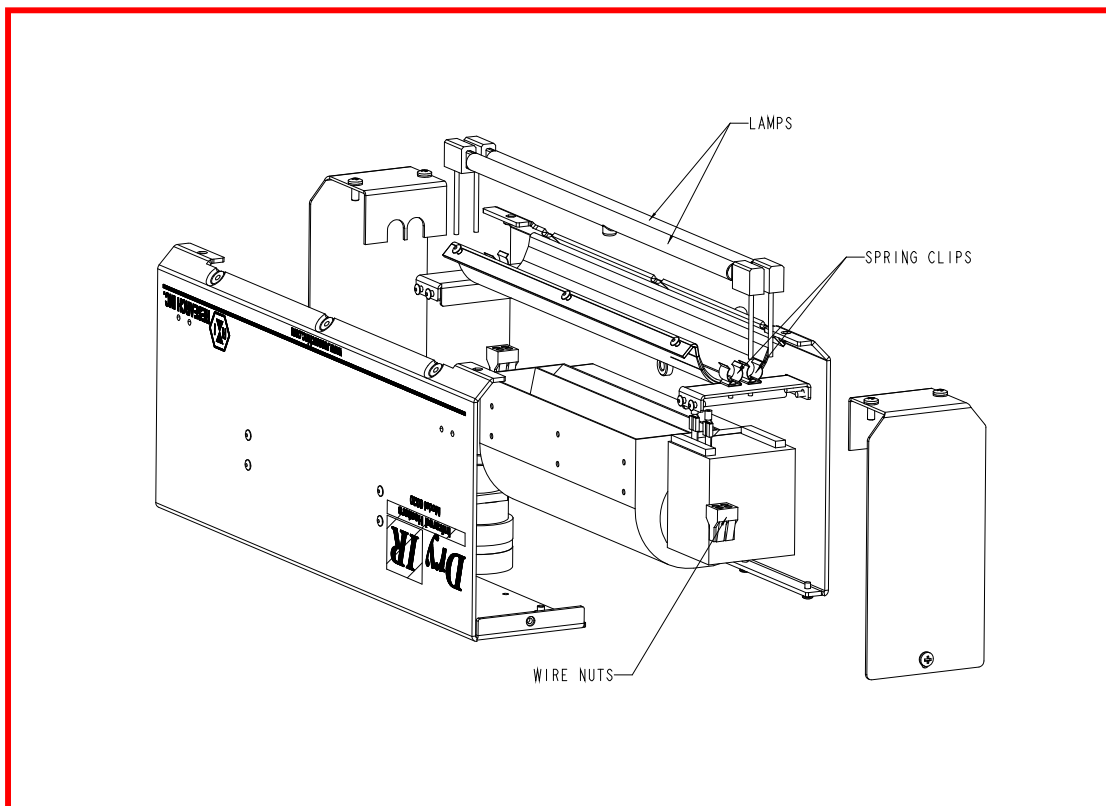

Figure 6-1. Model 6020 Spring Clip and Wire Nut Locations
6.1 LAMP REMOVAL/REPLACEMENT/INSTALLATION: The lamps are included with the Model 6020 heater, but are shipped separately to avoid breakage. The following procedure details the process to install or replace the lamps in the Model 6020 (reference Figure 6-1):
3. Pull the lead wires out of the wire nuts. (see Figure 6-1).